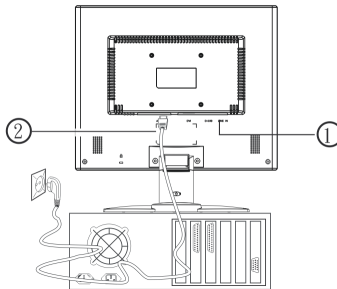

Figure 3. Connecting the monitor to the power source
If your computer is equipped with an audio output port, connect one end of the sound cable to the audio Input connector of the monitor (① in fig. 3) and the other end to the Line-Out connector of the computer.
Connect the separate power cable (② in fig. 3) to the Monitor and a grounded outlet.